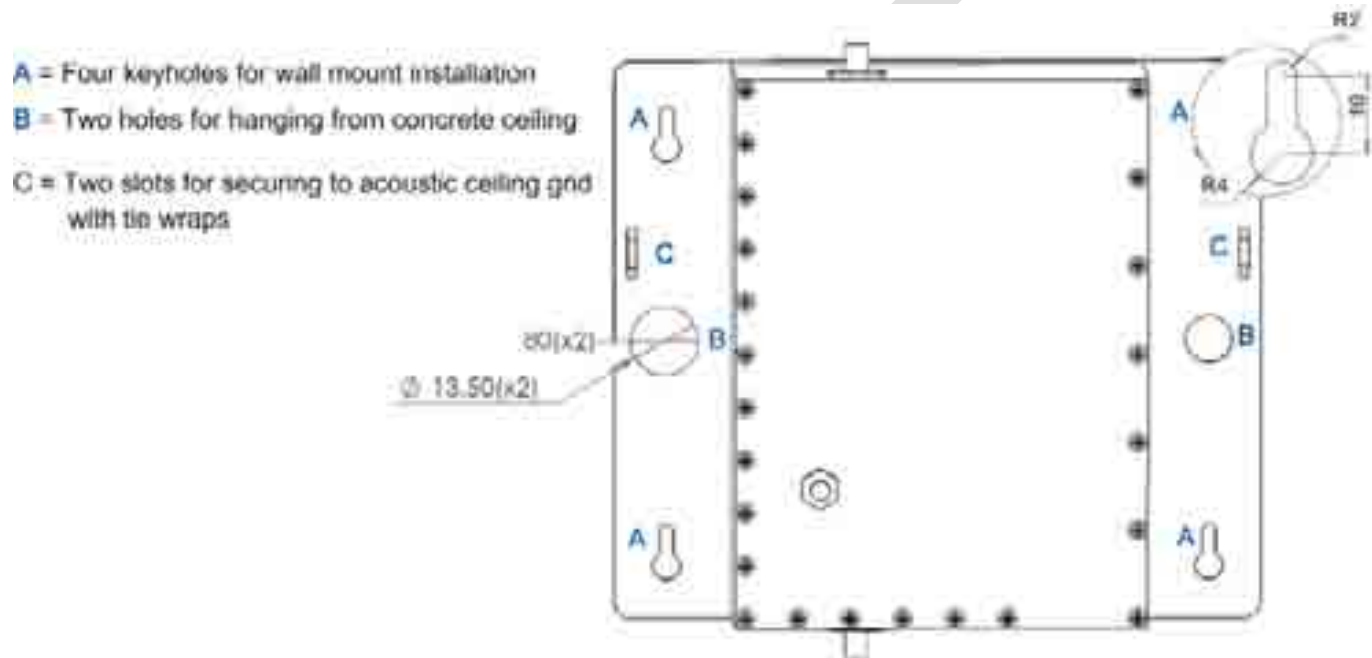
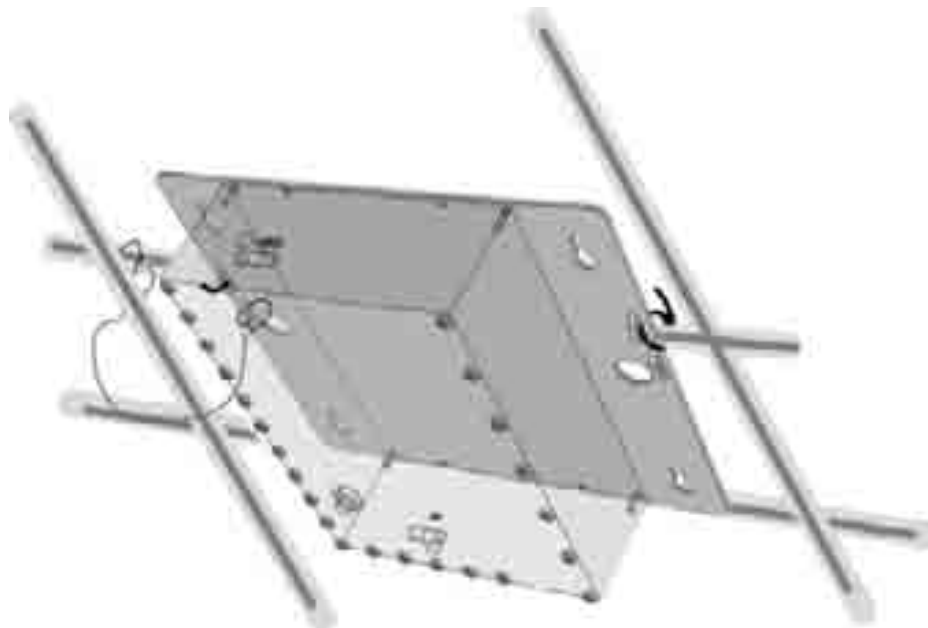

Figure 5-97. Cavity Filter Dimensions and Mounting Holes
Figure 5-99. Illustration of Cavity Filter Mounted on Acoustic Ceiling Grid
- The Cavity Filter mounting bracket supports wall/ceiling/acoustic ceiling installations. See Figure 5-97.
1. Using the two holes (Item B in Figure 5-97) as a guide, mark the location of the holes to be drilled in the ceiling.
In acoustic ceiling mount installations, the Cavity Filter can be fastened to the grid by slipping tie wraps through slits on the bracket (Item C in Figure 5-97) and securing the assembly to the grid with the provided safety cable. Refer to Figure 5-99.
1. Using the four key holes (Item A in Figure 5-97) as a guide, mark the location of the holes to be drilled in the wall.